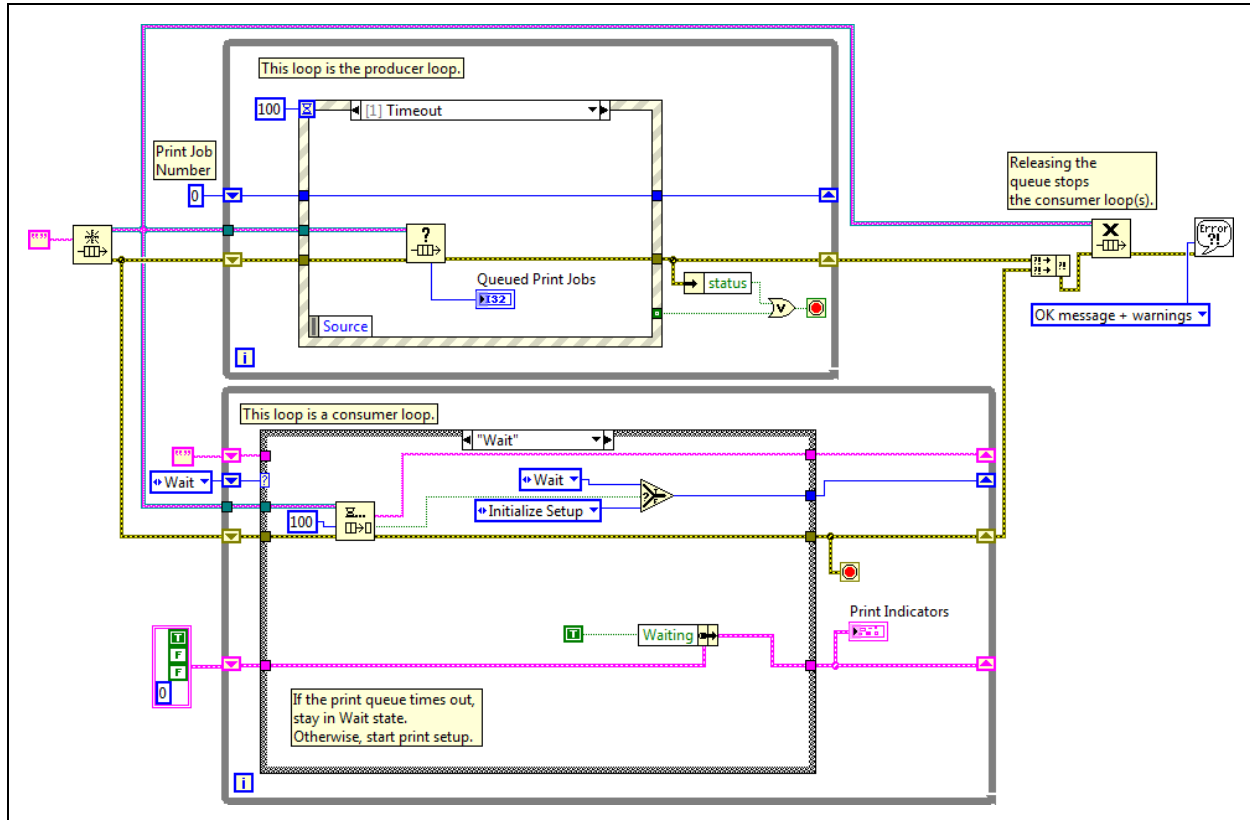

Figure 3. Block Diagram with Merge Errors Function and Simple Error Handler VI
- Complete wiring the Merge Errors function and the Simple Error Handler VI as shown in Figure 3.